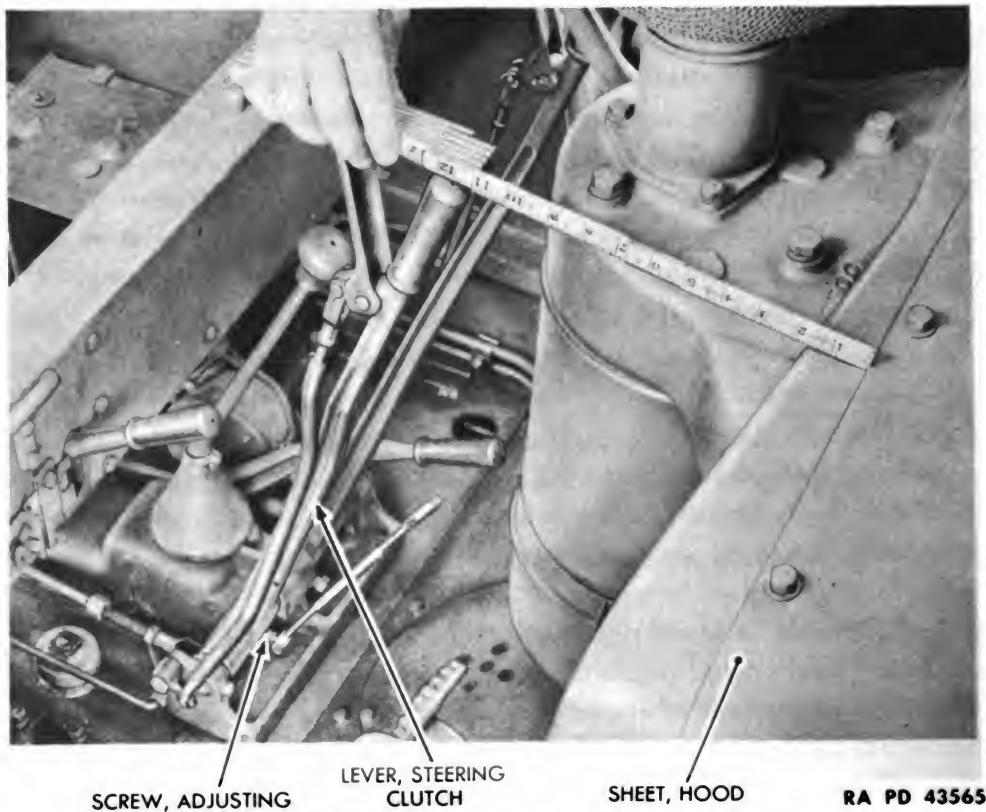

Figure 111 – Steering Clutch Lever Adjustment
(1) ADJUSTMENT OF STEERING CLUTCH LEVER POSITION (fig. 111).